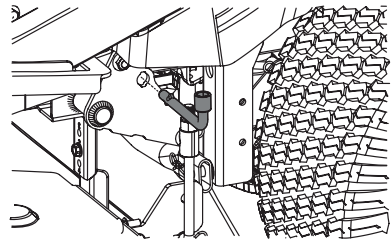

Figure 42
5. Use the deck lift pedal and deck lift knob to place the deck in the lowest position and use the multi-tool to lock the deck lift components in place. There are a pair of alignment holes by the rear wheel on the left side of the tractor (one on the frame and one on the deck lift arm) as shown in Figure 42. Ensure tool is fully inserted properly, locking the deck lift arm in place to the frame.